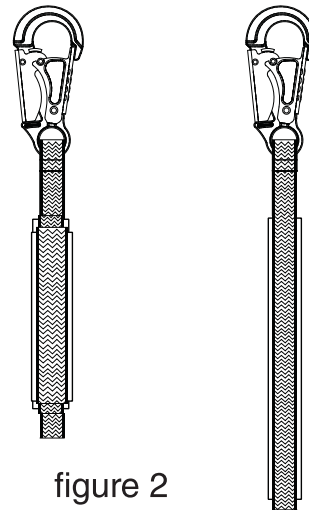

figure 2
2. For the R330010, inspect the shock pack for signs of deployment. If any of the white tear web is outside of the plastic tubing, the product should be removed from service. See figure 2 for details.